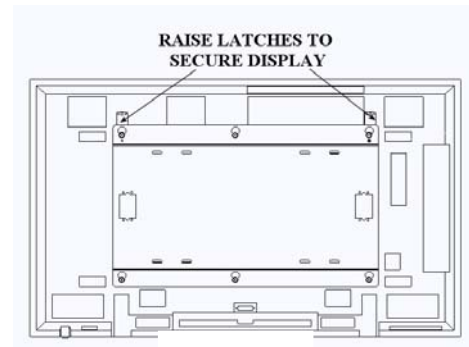

Figure 3
4. With the aid of another person, lift the display up to the mount. Align the mounting buttons on the display with the teardrop slots on the mount and set the display into place (Figure 3).